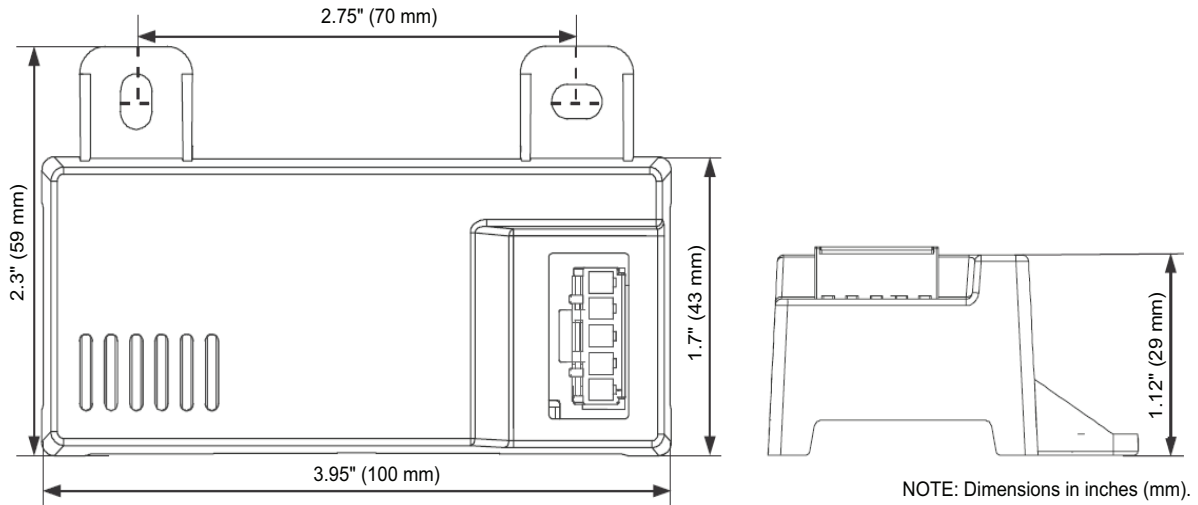
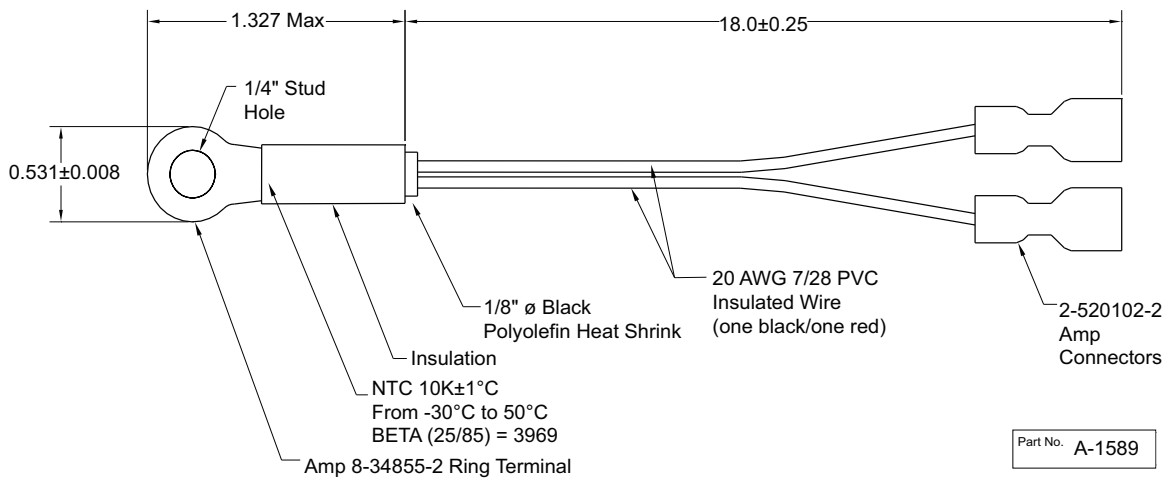
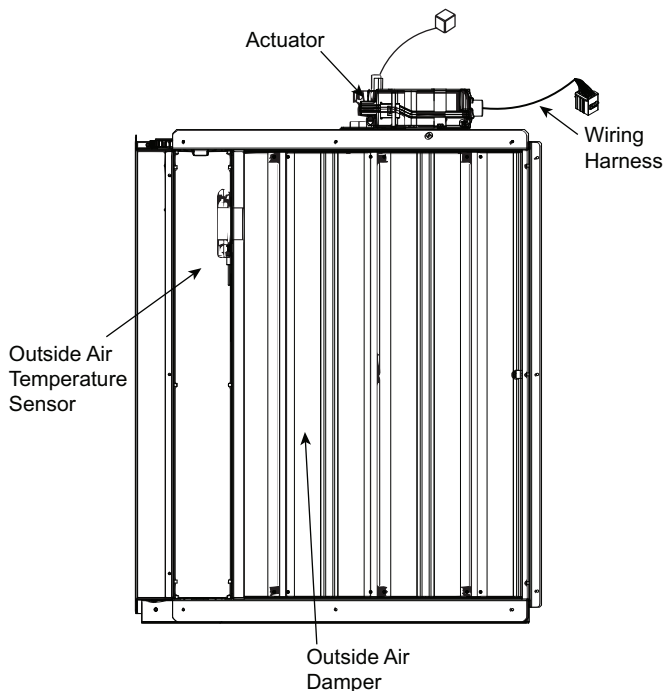

Fig. 74 — HH57LW001 Dimensional, Connection and Switching Information
Fig. 75 — HH79NZ039 Dry Bulb and Mixed Air Sensor Wiring
Fig. 76 — EconomizerONE Component Locations (CRECOMZR108A00 Shown)
When using the HH57LW001 enthalpy sensor (see Fig. 74) for outside air changeover, the existing HH79NZ039 dry bulb sensor (see Fig. 75) must be removed. The enthalpy sensor will be mounted in the same location as the dry bulb sensor (see Fig. 76). When the enthalpy sensor's OA (Outside Air) temperature, enthalpy, and dew point are below their respective setpoints, the outside air can be used for free cooling. When any of these are above the setpoint, free cooling will not be available. Enthalpy setpoints are configurable and create an enthalpy boundary according to the user's input. For additional details, see Fig. 77-78 and Table 30.
The optional enthalpy control sensor (P/N: HH57LW001) communicates with the POL224 economizer controller using the 5-wire harness, 48TC005213. The HH57LW001 sensor can be used as a single outside air enthalpy, a differential return enthalpy, or a differential return temperature sensor. Refer to the base unit control wiring diagrams found earlier in this book to wire the HH57LW001 enthalpy sensor for each option. Use Fig. 74 and Table 32 on page 57 to locate the wiring terminals for each enthalpy control sensor.
Economizers are shipped standard with an HH79NZ039 outside air dry bulb sensor (see Fig. 75). System default setting (high temp limit) is 63°F (17°C) and has a range of 48°F to 80°F (9°C to 27°C). Sensor is factory installed on economizer.
If installing the optional HH57LW001 enthalpy sensor, the HH79NZ039 dry bulb outside air sensor must first be removed. Wire sensor to harness 48TC005213 and the (5) wires from the harness to the EconomizerONE harness in the return air chamber. Harness 48TC005213 has a 5-pin plug that connects directly to the HH57LW001 enthalpy sensor. Refer to the base unit control wiring diagrams earlier in this book for wiring connections. Refer to Fig. 74 and Table 32.